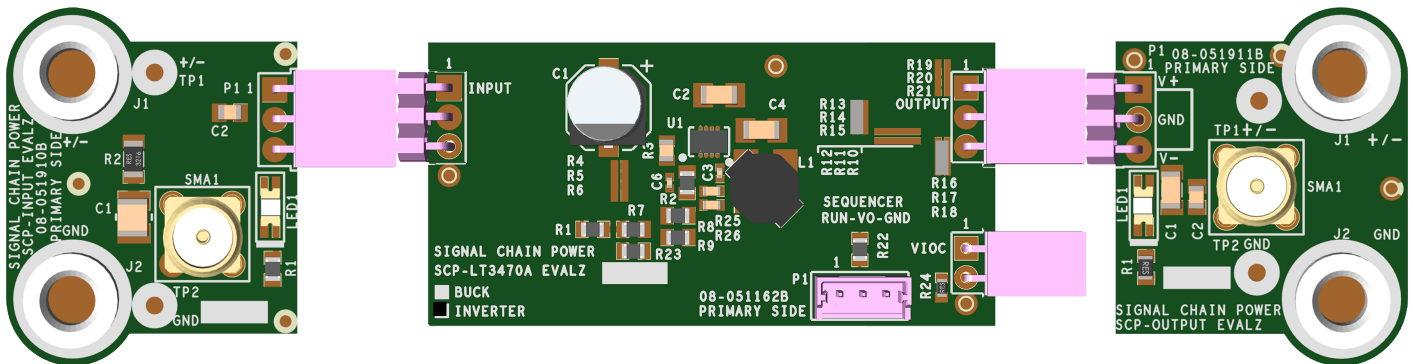

Figure 2. Proper Measurement Equipment Setup (Use SMA connectors for Measuring Input or Output Ripple)
2. Connect the SCP-INPUT-EVALZ and SCP-OUTPUT-EVALZ boards to the SCP-LT3470A-IEVALZ (refer to Figure 2) and connect the input board to a voltage source, V_{SOURCE} . Connect the output board to a voltmeter or dynamic load. Slowly raise the input voltage until the SCP-LT3470A-IEVALZ powers up into regulation and sweep V_{SOURCE} through the desired range of operation.